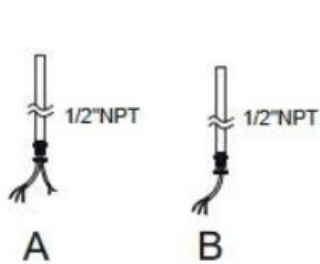

Figure 7
1. Unscrew the nuts on 1/2" NPT (by others) (Figure 7).